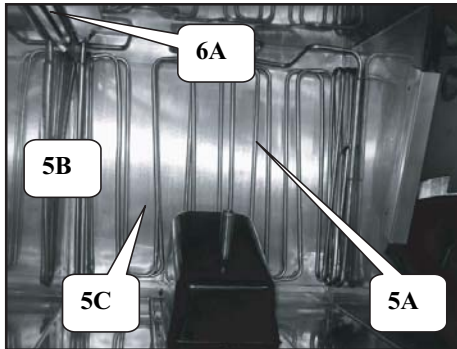
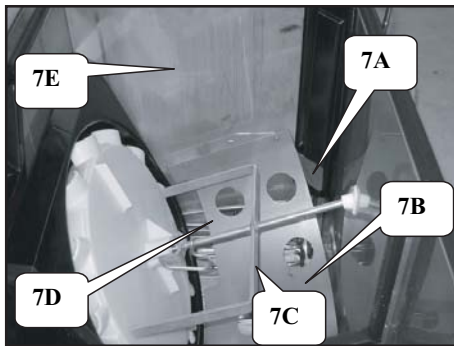
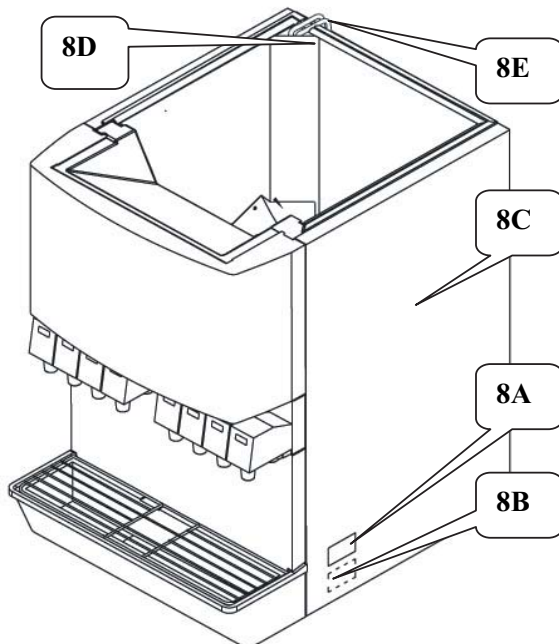

FIGURE 4
FIGURE 5
FIGURE 6
7. Place the cooling coil heat exchanger (5A) into the previously cleared and cleaned ice storage bin (5B) as shown (See Figure 4). Be sure the coil is resting flat on coldplate (5C) of the ice beverage dispenser (See Figure 5). The inlet and outlet fittings (8E) of the cooling coil heat exchanger will exit over previously trimmed 3.00 inch open area (4C) of the rubberized bin gasket (4A) in the back left corner of the ice beverage dispenser (4B) (See Figures 3 and 6). The inlet and outlet fittings (8E) of coil should be visible from the back of the ice beverage dispenser (8C) (See Figure 6).
8. Remove protective covering from adhesive tape on back of the plastic cover (6A) that is factory installed on the cooling coil heat exchanger (6B) (See Figure 6). Place plastic cover (6A) snugly into previously cleaned left inside corner of ice beverage dispenser (8C) flush with the top of the ice storage bin (8D) as shown (See Figures 4 and 6).
11. Reinstall the double -D coupling [where applicable], agitator bar (7C) and paddlewheel pin or pins (7D) in the ice storage bin (7E) that components were previously removed from (See Figure 5).
14. Place label (8A) [Part No.5011948] near existing serial tag (8B) of ice beverage dispenser (8C) (See Figure 6).